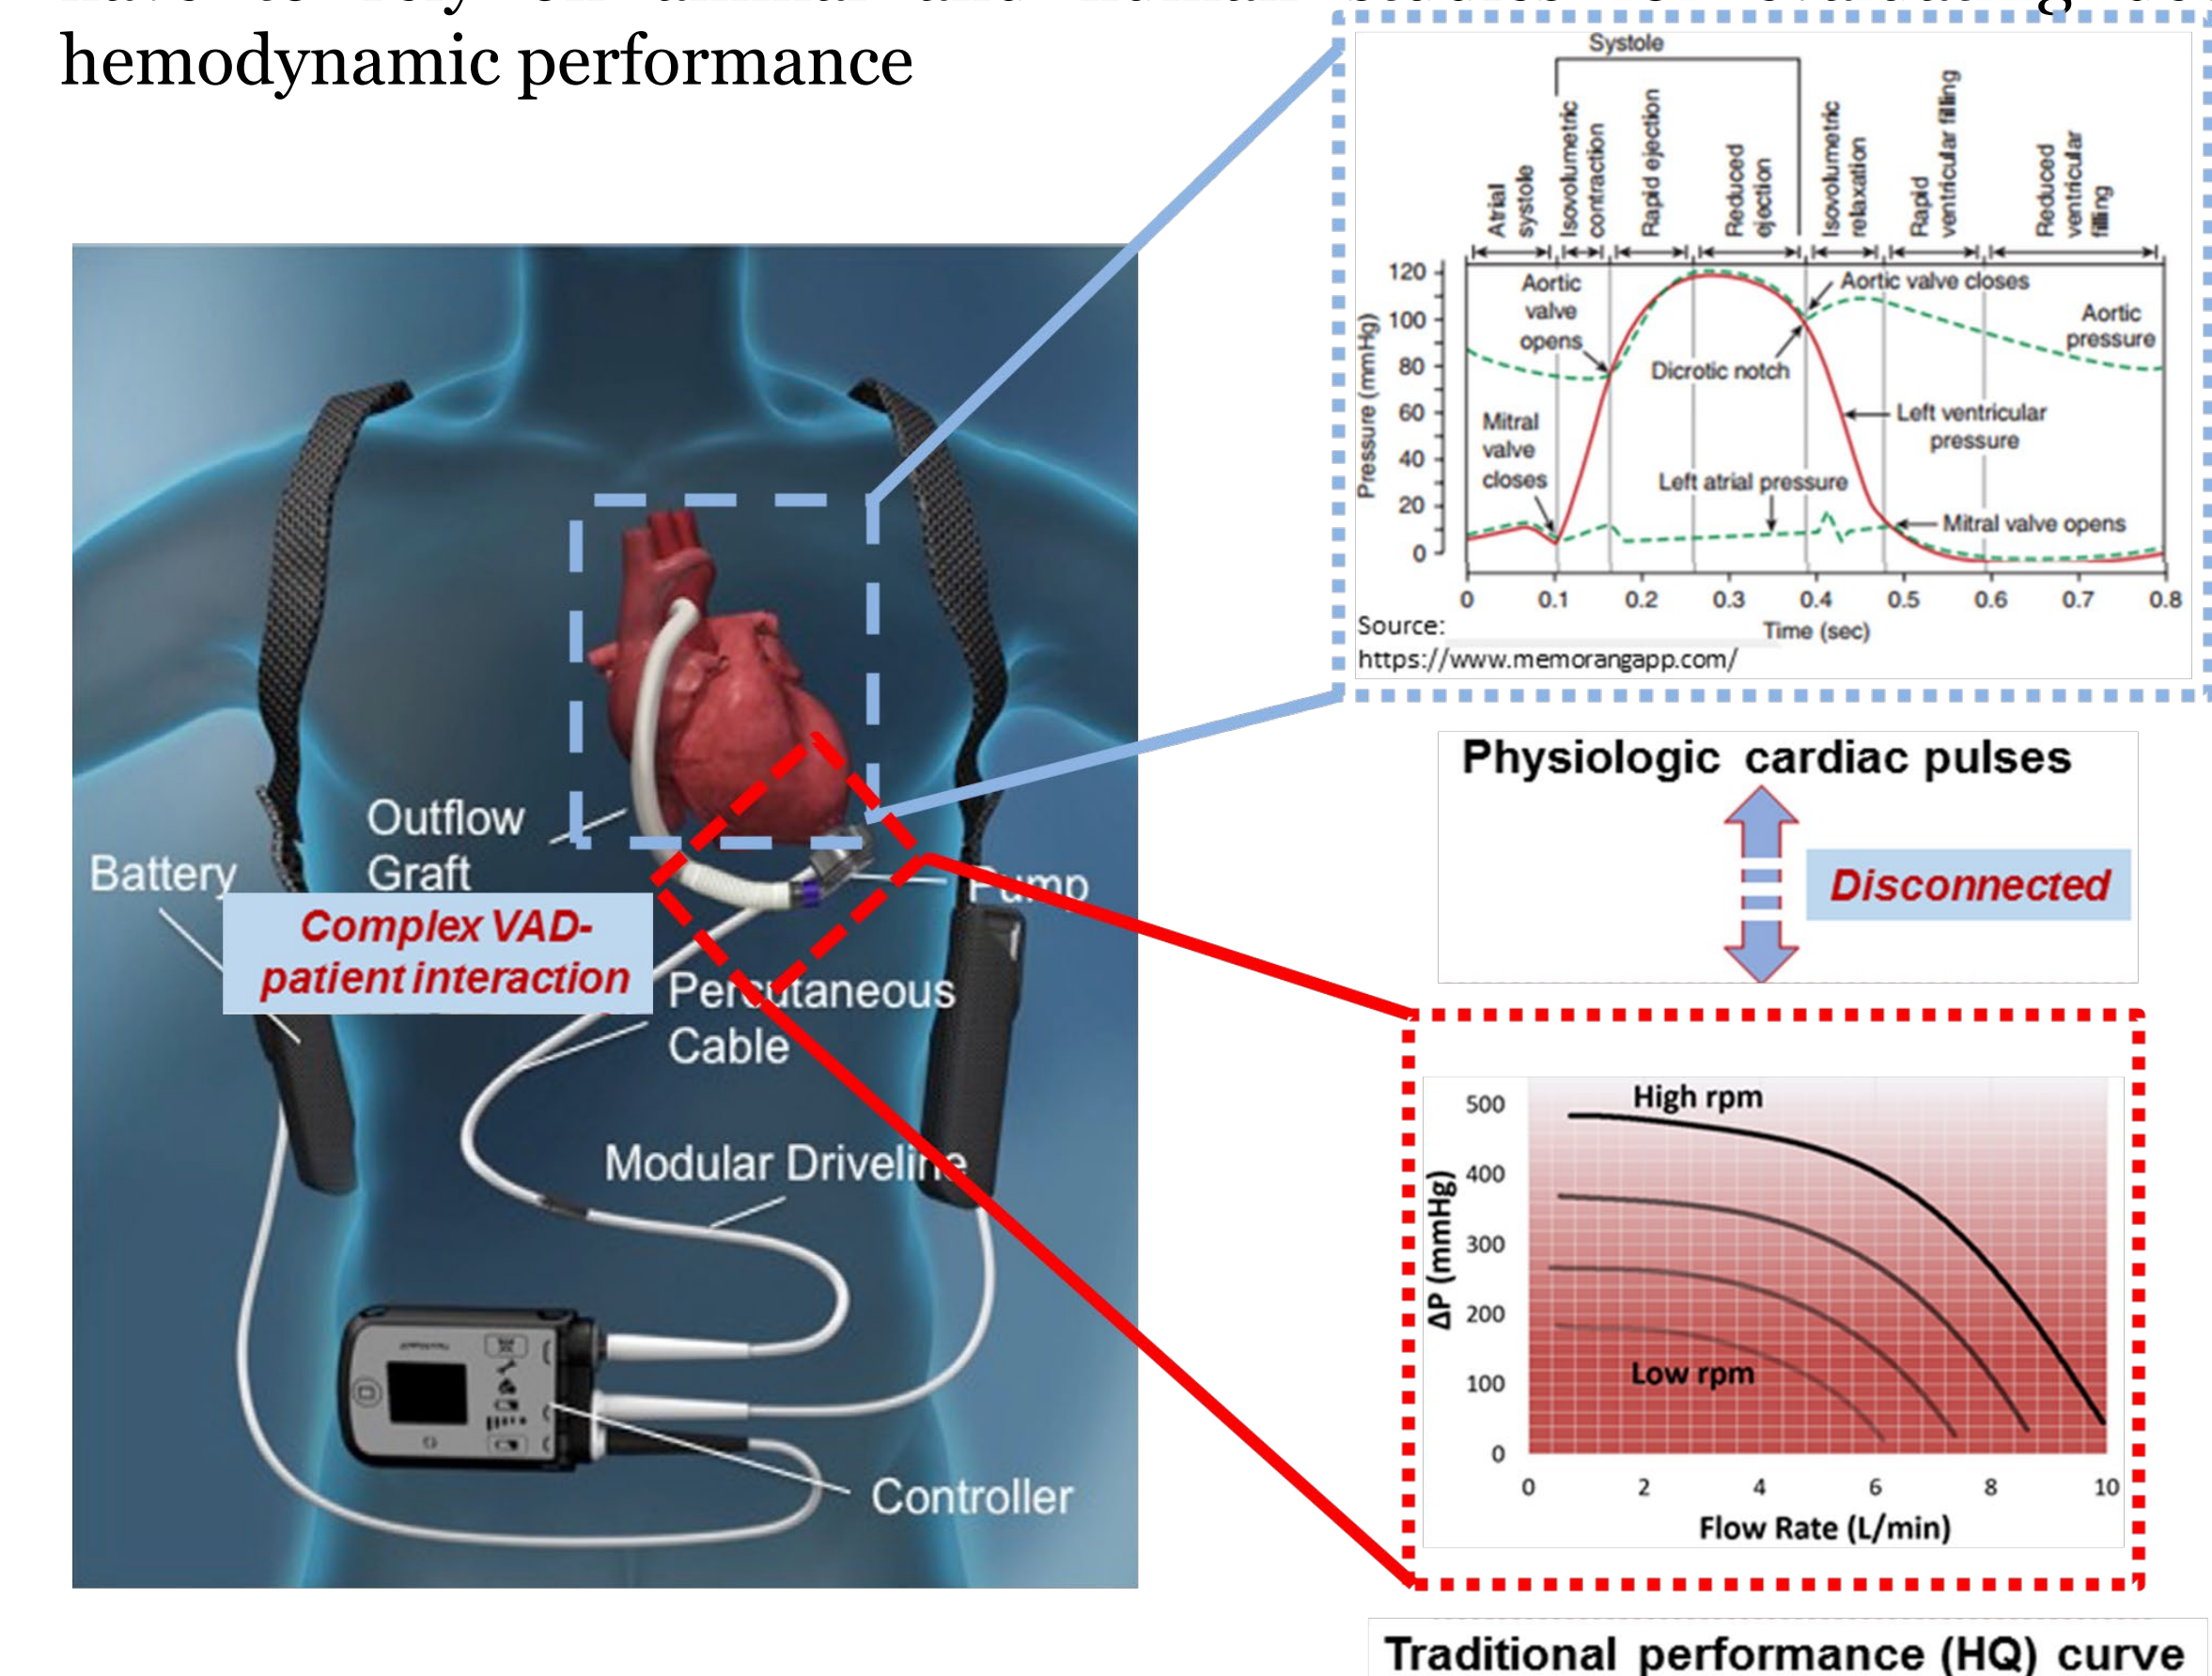

Figure 1. An image showing an implanted MCS device (i.e., ventricular assist device (VAD)) along with the knowledge gap in current *in vitro* testing.
- Impacts cardiovascular hemodynamics (Fig. 1 – cardiac pulses)
- Different HF conditions (e.g., acute myocardial infarction, cardiogenic shock) lead to variability in diagnostic cardiac indices (e.g., left ventricle (LV) pressure and flow, stroke volume)
- Bench testing in pre-market submissions often only contain non-physiologic pressure drop (ΔP)-flow rate curves (Fig. 1 – HQ curve) with no assessment of device-patient interaction in a cardiovascular mock circulatory loop (MCL)